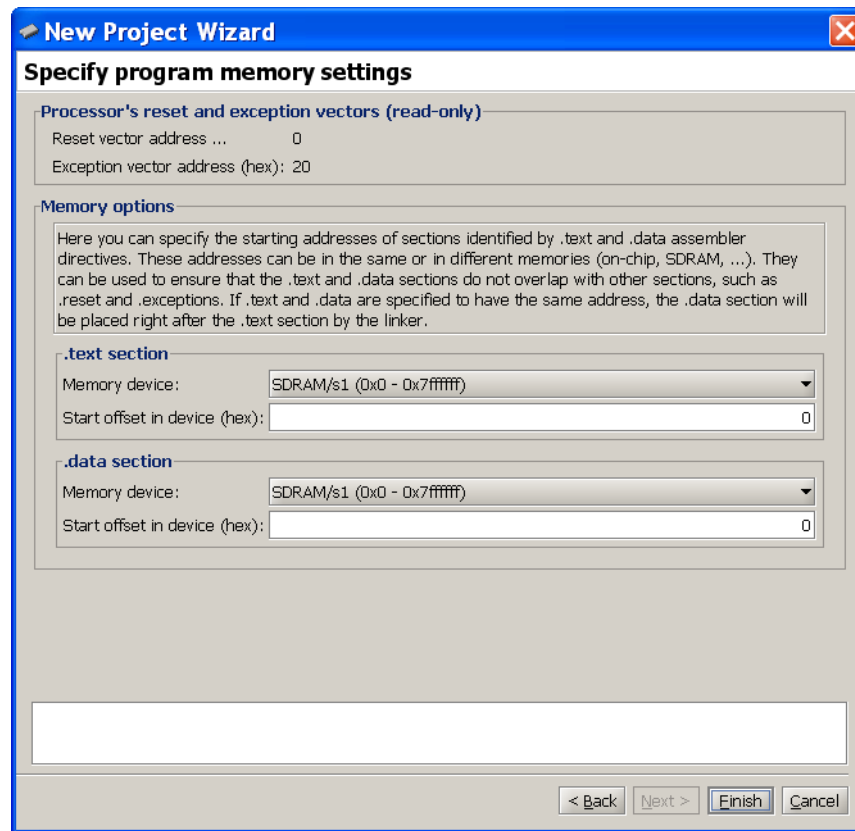

Figure 10. Specifying memory settings.
- Click **Next** to reach the final screen for creating the new project, shown in Figure 10. This screen is used
As illustrated in Figure 10, choose the SDRAM chip in the DE2-115 Basic Computer as the storage location for both the *.text* and *.data* sections, and use the value 0 for the offset into the memory for both sections. When the offsets for both sections are identical the linker automatically places the *.data* section immediately after the *.text* section.